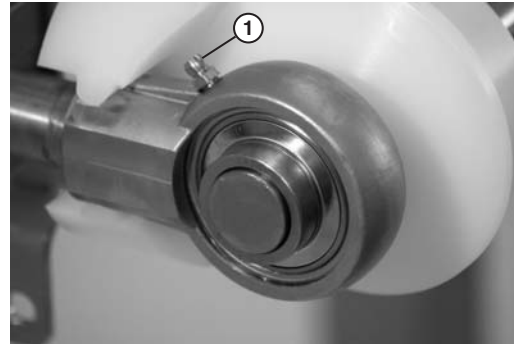

Figure 54
1. Add grease to the bearing using the zerk fitting (**Figure 54, item 1**) on the exterior of the bearing shaft assembly.